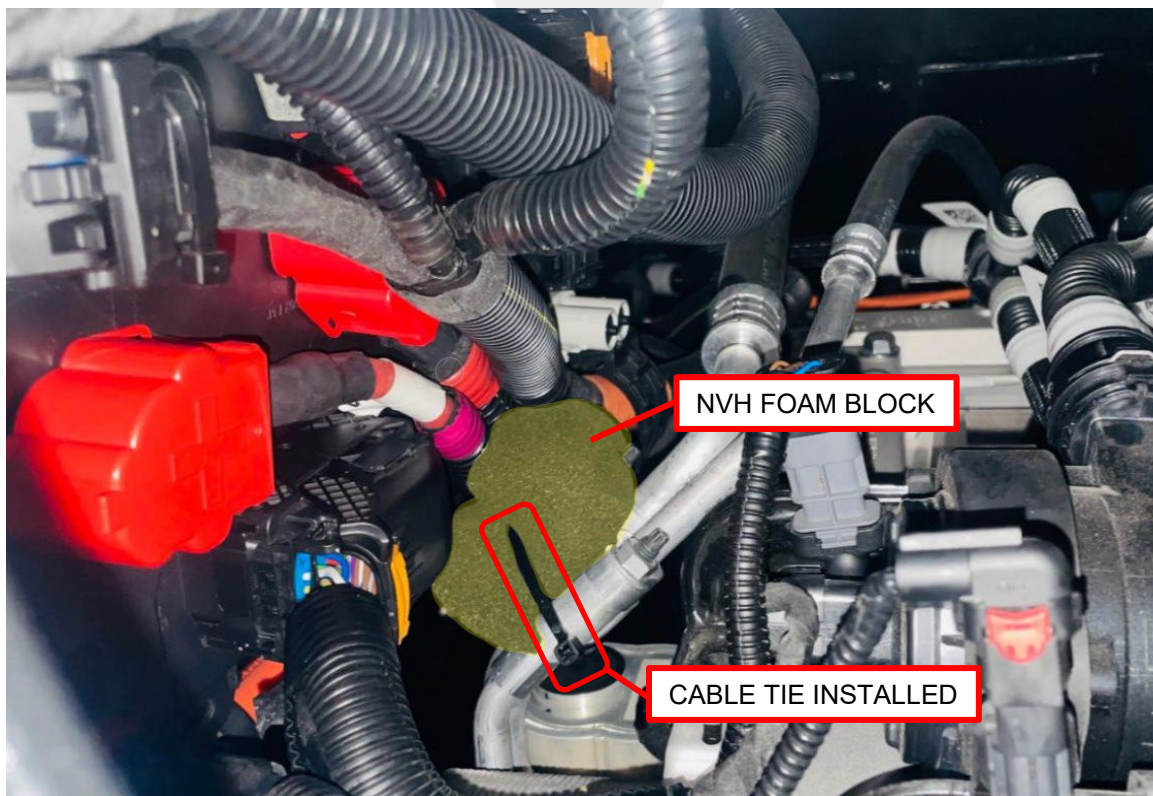

Figure 16
- b. Position a Noise, Vibration, and Harshness (NVH) foam block between the RH frame harness and the thermal hose stud, and then use a cable tie to attach the foam block to the thermal lines (x2) (Figure 16). Cut excessive tie from the cable tie.